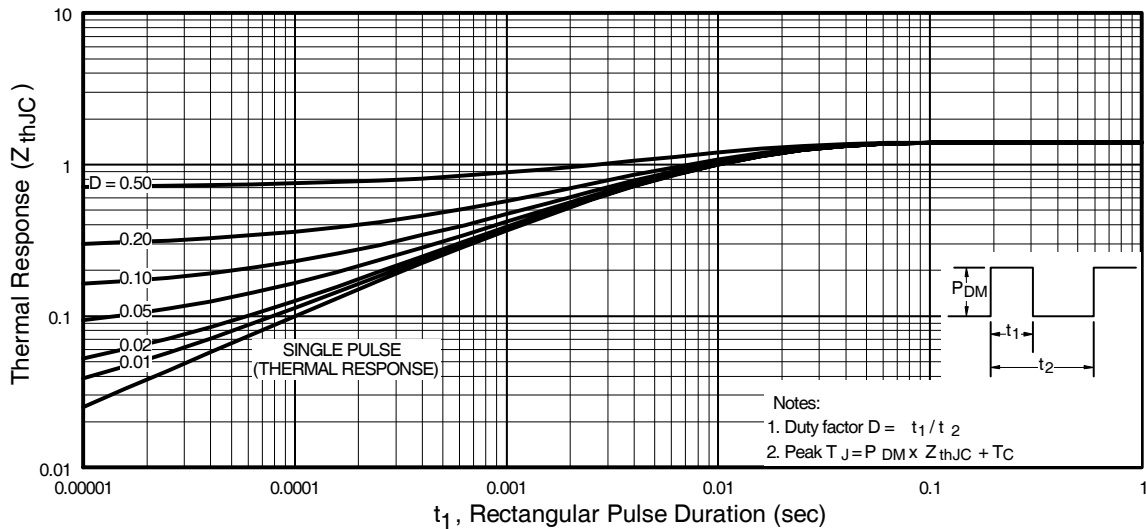

Fig 11. Maximum Effective Transient Thermal Impedance, Junction-to-Case
- ① Repetitive rating; pulse width limited by max. junction temperature. (See fig. 11)
- ② Starting $T_J = 25^\circ\text{C}$, $L = 14\text{mH}$